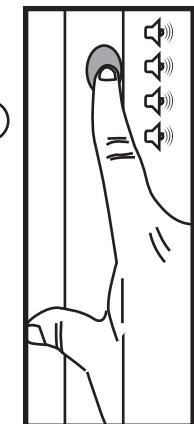

Figure 34;
Next, press and hold the PROGRAMMING BUTTON (b) on the SMART WAND™ until you hear a TRIPLE BEEP (3), then release. [Fig. 34].